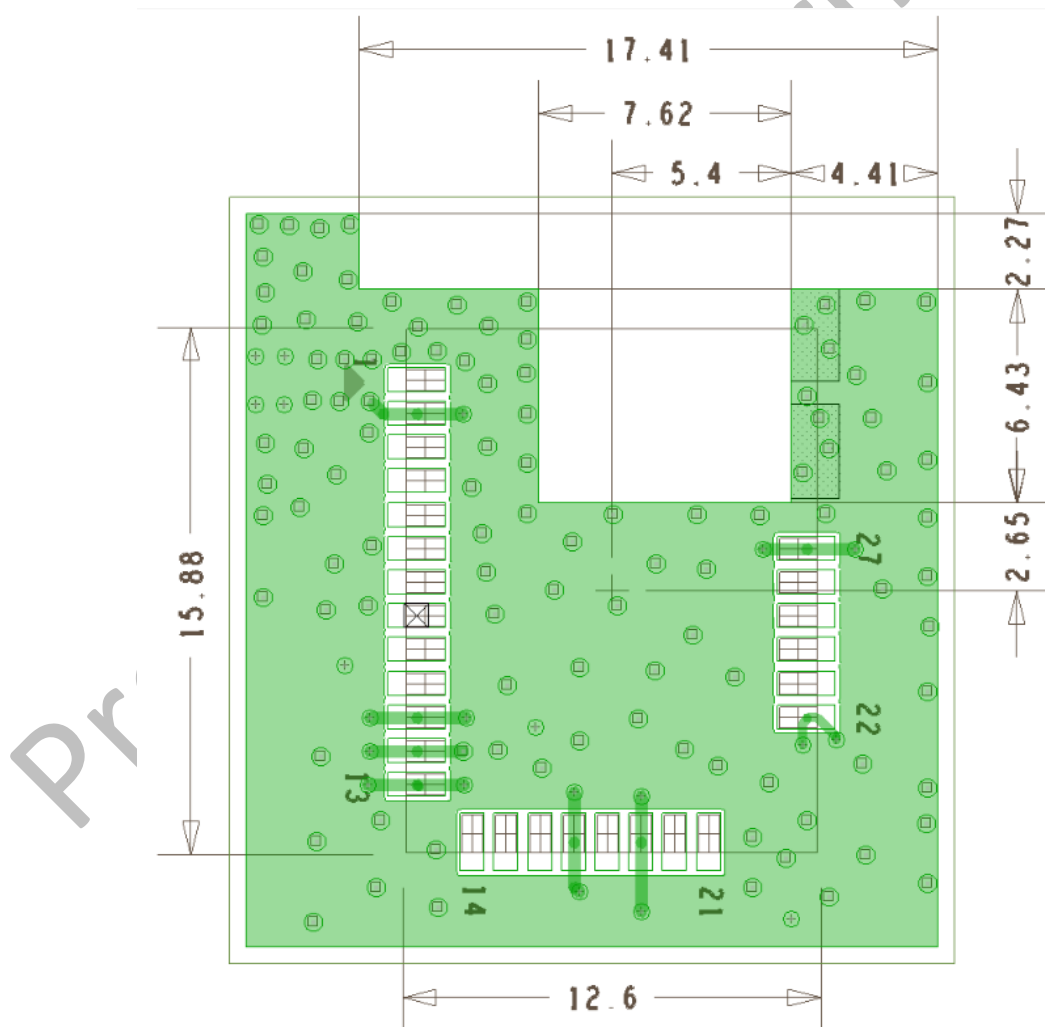

Figure 4: RF ground and antenna keepout for CSB04PA1x-CHP. Dimensions in mm.
- Place the module at the edge of the PCB with the recommended RF ground and keepout areas as shown in Figure 4. The keepout area is necessary for optimal performance of the antenna and metallization should be removed from this area on all layers of the PCB.